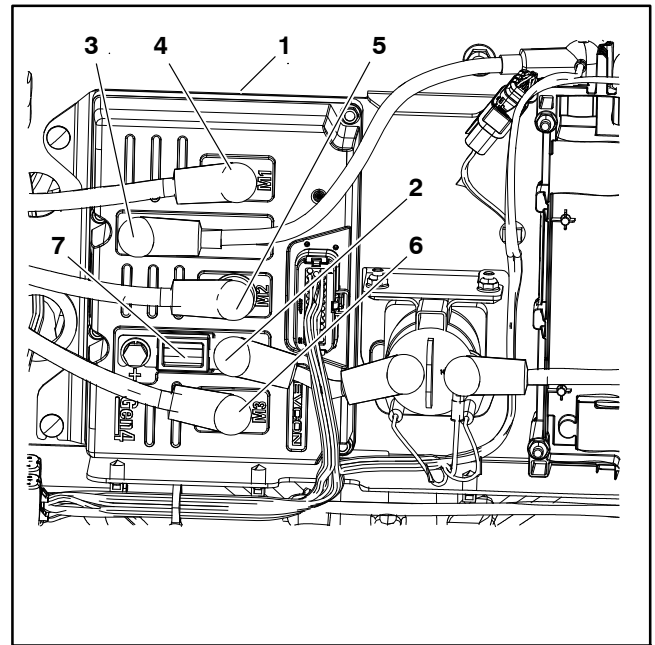

Figure 64
- A. Remove cap screw, lock washer, flat washer and cable connector from controller terminals B+, B-, M1, M2 and M3 (Fig. 64).
7. Remove four (4) bolts (13) that secure traction controller to controller bracket. Carefully remove controller from vehicle.
1. Position SC2: traction controller to controller bracket and secure with four (4) bolts (13). Torque the bolts (13) from **90 to 110 in-lb (10 to 12.4 N-m)**.
- B. Secure controller cables to controller terminals B+, B-, M1, M2 and M3 with cap screw, lock washer and flat washer (Fig. 64). Torque cap screws from **90 to 110 in-lb (10 to 12.4 N-m)**.